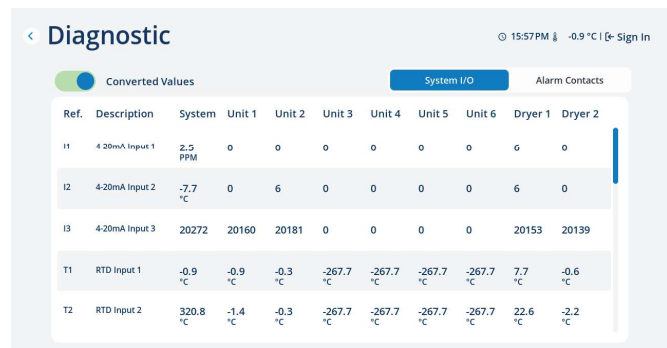

Figure A.3.8.2 Diagnostic Screen
- Diagnostic – Two tabs depicting the I/O status of the connecting unit controller board. The first tab (Figure A.3.8.2) lists the digital inputs (X1-X3 as 0 or 1), the analog readings (T1-T3, I1-I3, and P1-P2 with A/D values), the 24VDC powered digital outputs (Z1-Z4 as 0 or 1), as well as the statuses of “Fan Enable (Off/On)”, “Backup Switch (Open/Closed)”, and “Override Switch (On/Off/No)”. The values on the first tab can be displayed in their raw state as described above or as converted values changed into their corresponding units of measurement (Note: Values from disconnected I/Os may also convert, but these converted values are incorrect and should be ignored). The second tab lists alarm contacts as “Open” or “Closed”. “Open” contacts are in alarm state.